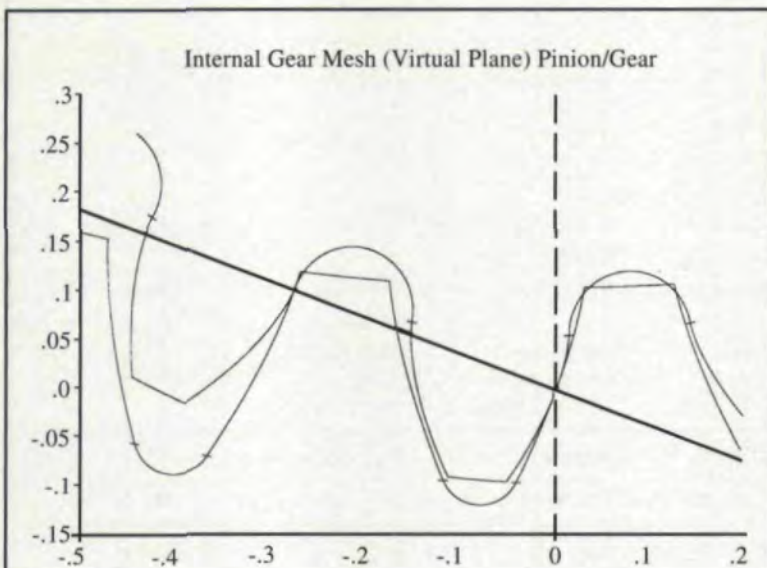

Fig. 11
• *An internal gear set geometry problem.* Fig. 11 is a computer plot of an internal spur gear set with a 17-tooth pinion driving a 46-tooth internal gear. The gear set is designed in accordance with standard handbook dimensions. The gears are to be molded and have full circular fillets. On the pinion the fillet starts at the base circle. It is obvious that the tips of the internal gear teeth are interfering with the pinion roots. A test of a prototype would certainly have found this problem, but new molds would have to be made to correct it.